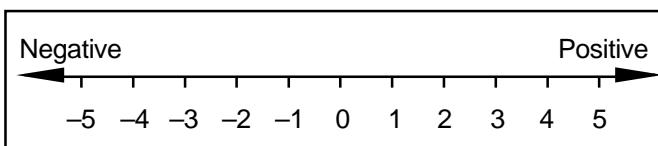

Figure B.1—Positive and negative numbers.
B.1 Using Numbers This section includes a review of a few key facts about numbers. Numbers continue in both the positive and negative directions forever. See figure B.1. This is shown as a line with arrows pointing in both directions, extending on to infinity. The numbers to the right of the zero are called **positive** and the numbers to the left are **negative**.